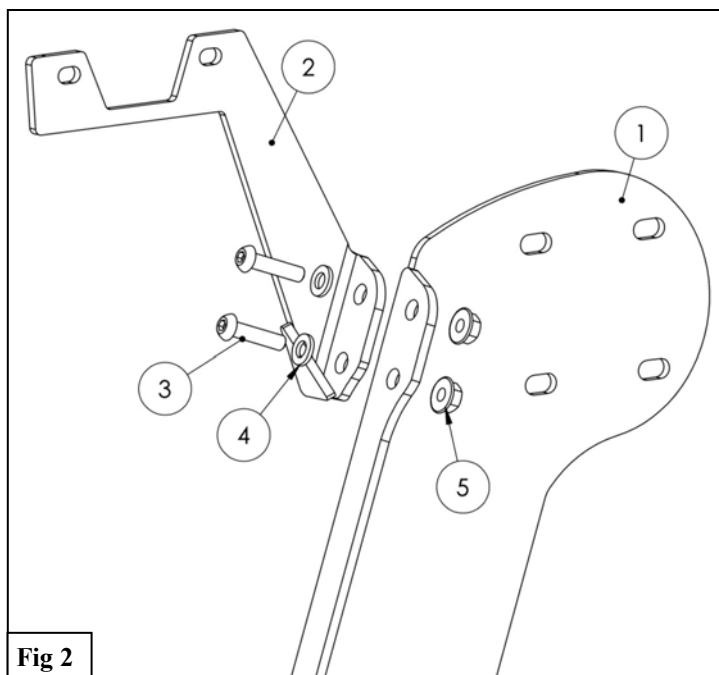

Fig 2
4. Use the supplied M6 Hardware to loosely install the Light Mount (2) to the RotoPax Mount (1). See **Figure 2**.